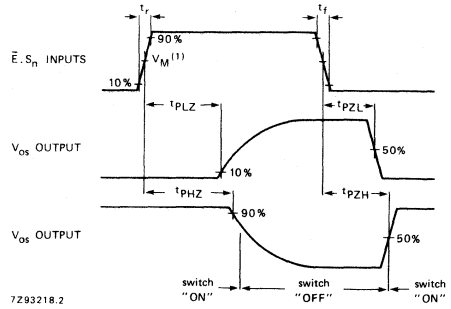

Fig. 19 Waveforms showing the turn-ON and turn-OFF times.
**Note to Fig. 19**
- (1) HC :  $V_M = 50\%$ ;  $V_I = \text{GND to } V_{CC}$ .